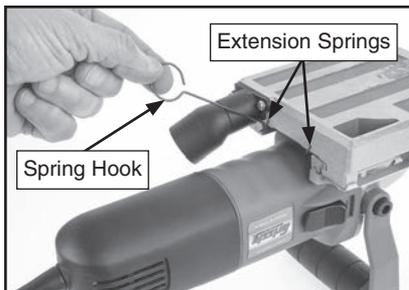

Figure 17. Base plate removal.
5. Turn biscuit joiner over and use spring hook to release (2) extension springs from base plate (see **Figure 17**), allowing each spring to contract under base plate.